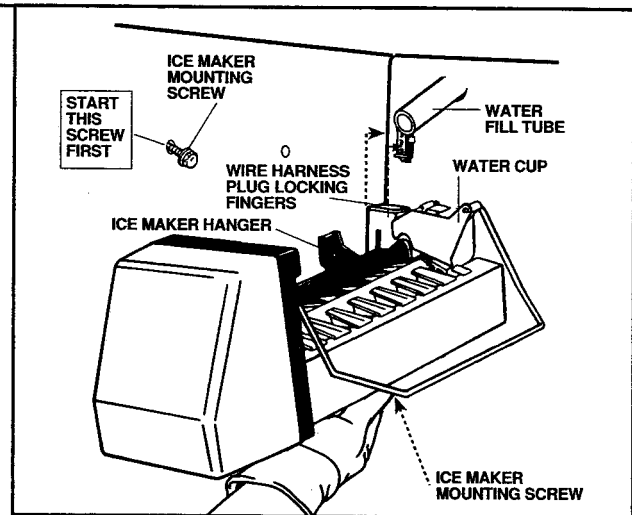

Figure 16
- e. Hold the ice maker in position inside the freezer compartment. Insert the wire harness plug into the receptacle on the rear wall, using a rocking motion, until the locking fingers on the top and bottom of the plug snap into place. See Figure 16.
- g. Install the two (2) remaining 5/8-inch silver-colored ice maker mounting screws and tighten all three screws.